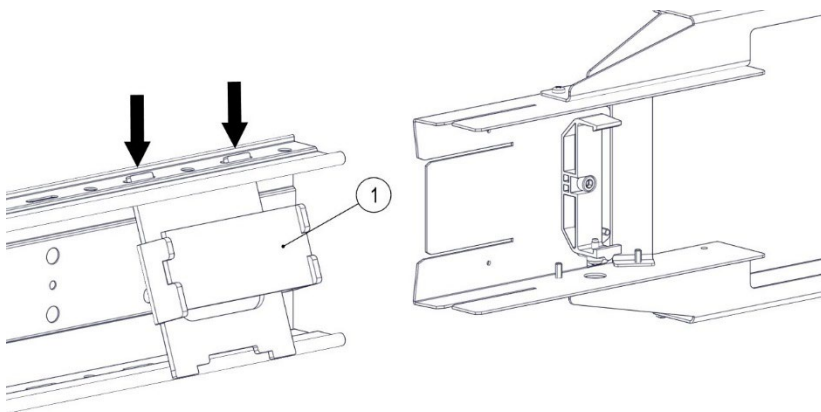

Fig. 26: Install installing tool (1) in support profile rail
4. Use the supplied installing tool (Order No.: 08-V015-0483) (1) to connect the individual ProShell support profile rails. The longer pins of the tool are located at the top. They are threaded into the elongated holes of the ProShell support profile rail (see Fig. 26). The ProShell support profile rail can be tapped onto the projecting part of the installation tool (1) with the aid of a rubber hammer (see Fig. 26).